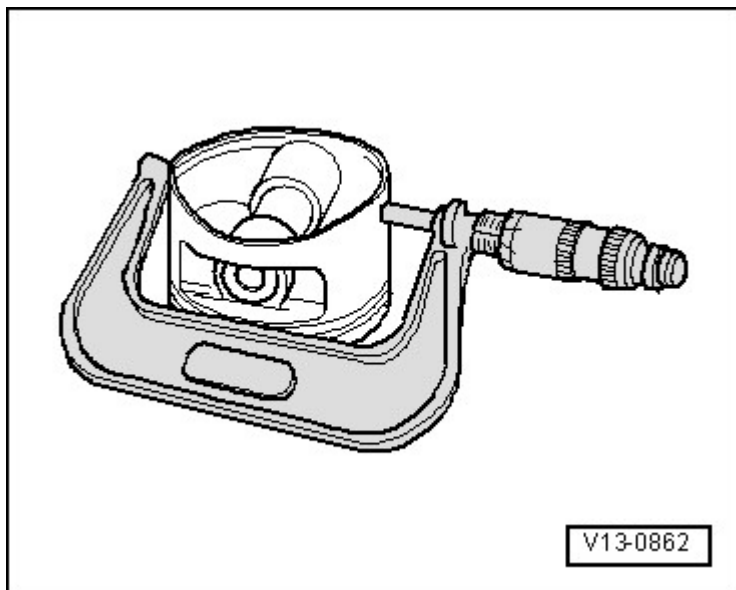

Fig. 10: Checking Piston
- Checking, refer to **Fig. 10**